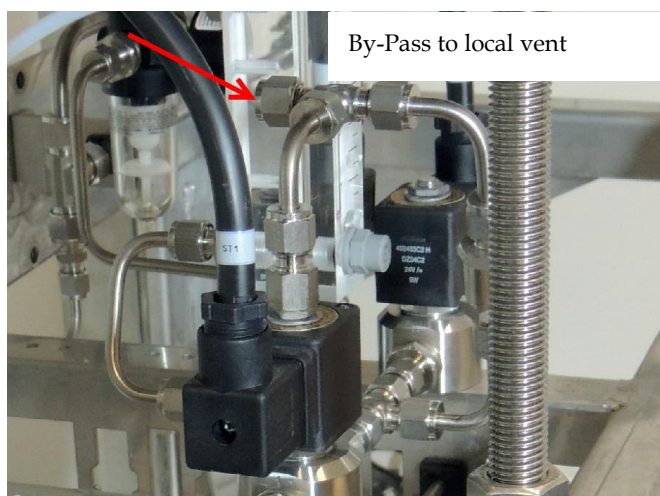

Figure 29 *Bypass flow must not be obstructed!*
- 5) Remove the cap on the bypass outlet. Make sure that the bypass outlet is not blocked or obstructed. Refer to Figure 29.